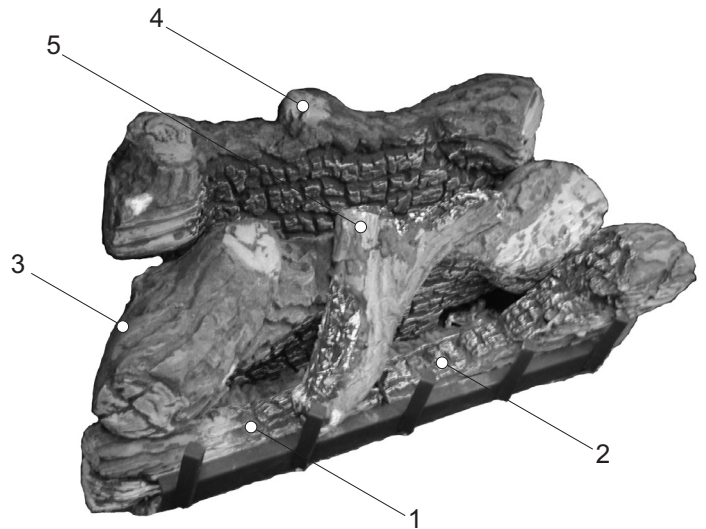
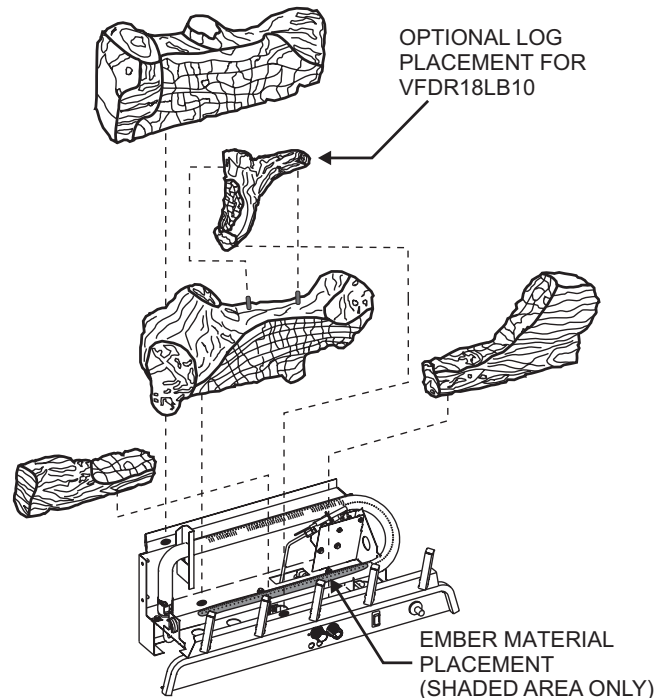

Figure 12
Figure 13
The positioning of the logs is critical to the safe and clean operation of this burner assembly. Sooting and other problems may result if the logs are not properly and firmly positioned on the burner assembly. Refer to **Figure 12** and **Figure 13** and corresponding **'WARNING:'** when completing following log placement instructions.
5. After all logs are positioned properly, apply Rockwool ember material to the front burner port area. To apply, carefully separate the ember material into small amounts no larger than "dime size" pieces. Fluffed up pieces one layer thick on top of the burner generally works best, and will provide the best ember glow. Do not place ember material more than one layer thick. No more than (2) two small packets of ember material (part no. 15998) evenly placed on the burner, is recommended on VFDR18 and VFDR24 models. Using additional ember material will decrease the amount of ember glow effect. Extra ember material should be saved for future ember applications as necessary. **See Figure 13.**
**Attention:** Do not use Figure 12 or Figure 13 to order logs. Refer to Parts Lists and Parts Views to order logs and/or ember material for your appropriate model.